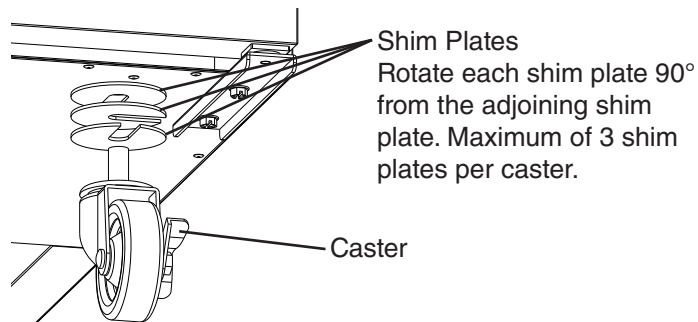

**Fig. 3**
- 3) Position the necessary number of shim plates in place (no more than 3 per caster). If using more than one shim plate, rotate each additional shim plate 90° from the adjoining shim plate so that the slots are not aligned. See Fig. 3.